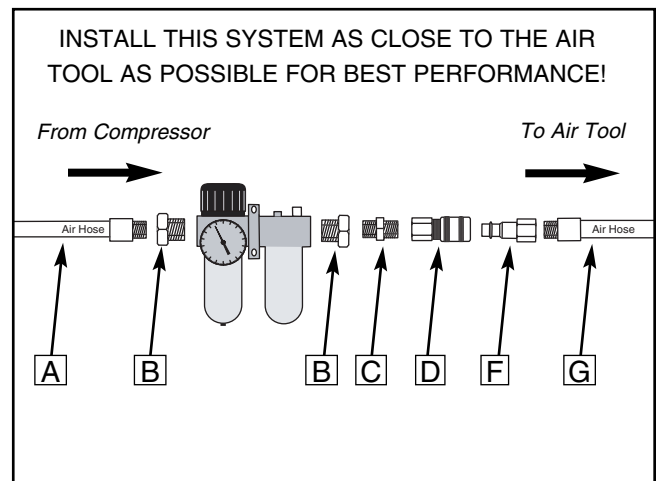

Figure 2. Connection diagram.
4. Connect an air line (A), in **Figure 2**, to the shut-off valve on your air compressor. You will need to install a 1/4" female x 3/8" male reducer (B) to accept a 1/4" air hose. Seal all the fittings with teflon tape to prevent leaks and product failure.
5. Connect the air line, with the reducer, to the line-IN 3/8" NPT threads on the Model H3259 as shown in **Figure 2**. Note—Use as short of an air line as possible, with minimal bends, to maintain an accurate working pressure.
6. Thread the same size reducer (B) into the line-OUT 3/8" NPT threads on the Model H3259, then thread on a male connector (C) followed by a quick coupler (D) as shown in **Figure 2**.